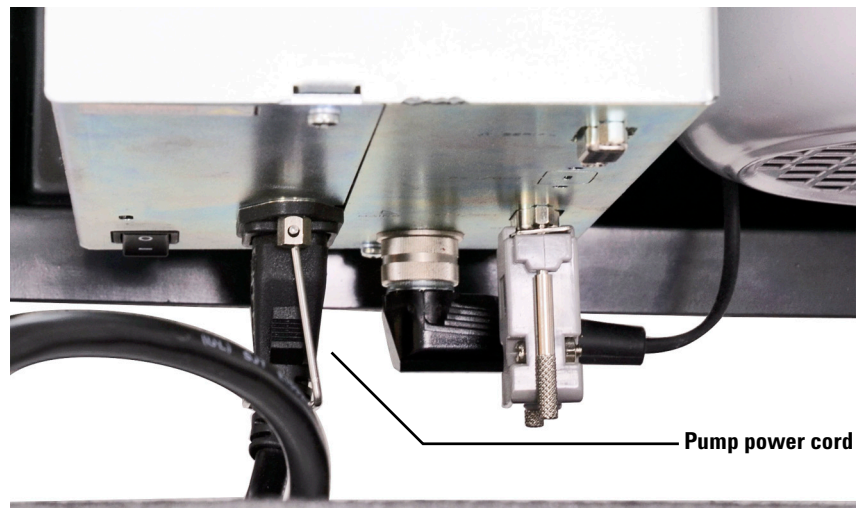

Figure 4 Pump power cord (G6011A Series)
- a Disconnect the power cord from the rough pump (see Figure 4).